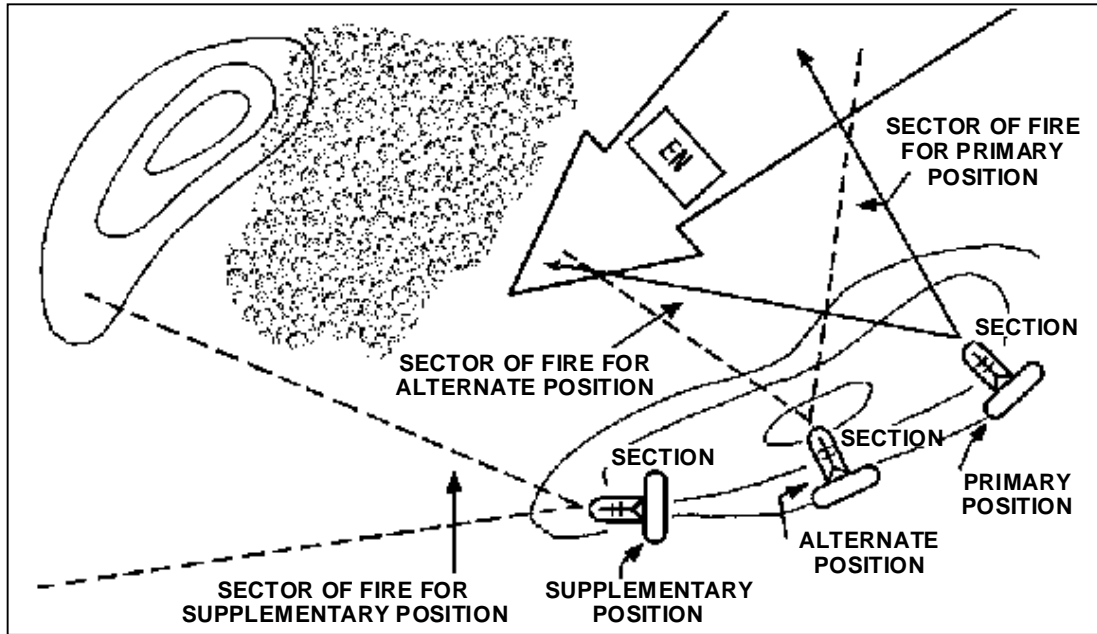

Figure 3. Primary, alternate, and supplementary positions.
- (2) You will normally give each medium antitank weapon assigned to cover the primary sector of fire both a primary firing position and one or more alternate firing positions. If you assign supplementary positions, then add these to the sketch (Figure 3).